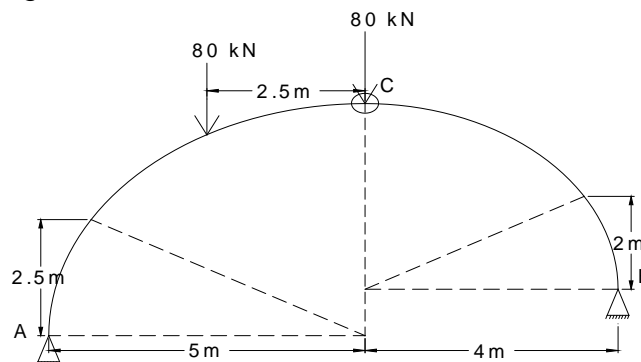

Fig.2
12. A three hinged arch consists of two circular quadrants, hinged together at the crown C and to rigid supports at A & B. The arch is loaded with two point loads of 80 kN each as shown in the fig.2. Obtain the vertical reactions & horizontal thrust at A and B. Also calculate the bending moments at sections 'D' and 'E'